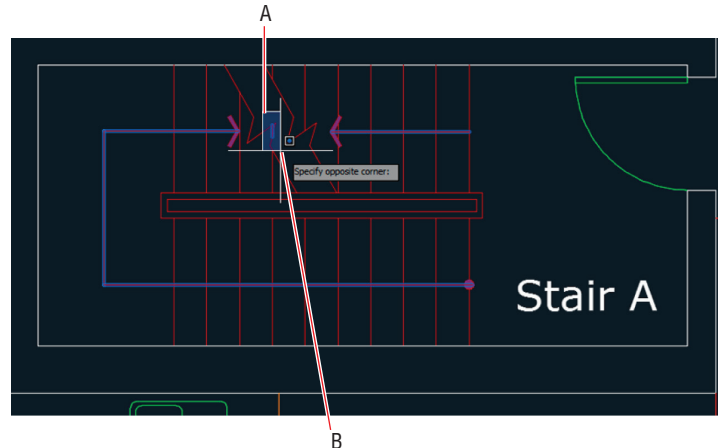

FIGURE 4.4 Removing a short line from the selection set with an implied window
- Click point A and then point B, as shown in Figure 4.4. This implied window selects the short line segment trapped in the break line and removes it from the selection set.